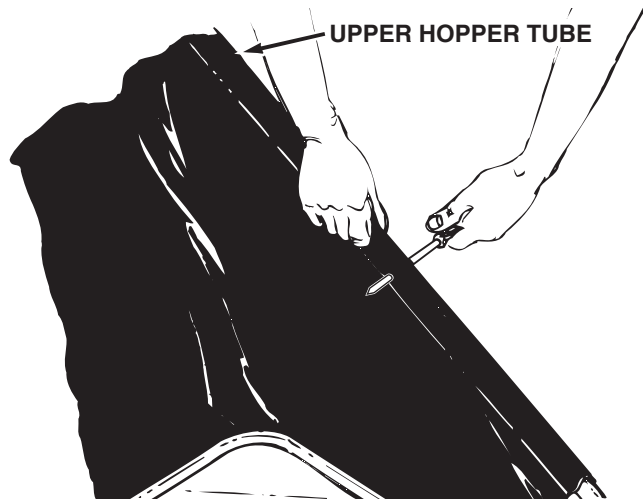

FIGURE 21
11. If the hole in the side of the upper hopper tubes is covered over by the bag, locate the hole by touch. It is approximately midway along the side of the bag. Pierce holes through the stitched bag flaps where the holes in both hopper tubes are located. See figure 21.